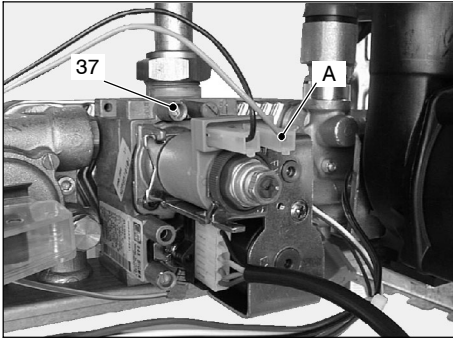

Fig. 7.4
- 2 Loosen the internal screw 37 (Fig. 7.4) on the Outlet Pressure Test Point of the Gas Valve and connect a pressure gauge using a suitable hose.
- 8 Disconnect the gas modulator coil by removing the electrical connector A (Fig. 7.4).
- 2 Open the gas valve outlet pressure test point 37 (Fig. 7.4) and connect the gauge.
- Open the gas valve outlet pressure test point 37 (Fig. 7.4) and connect the gauge.